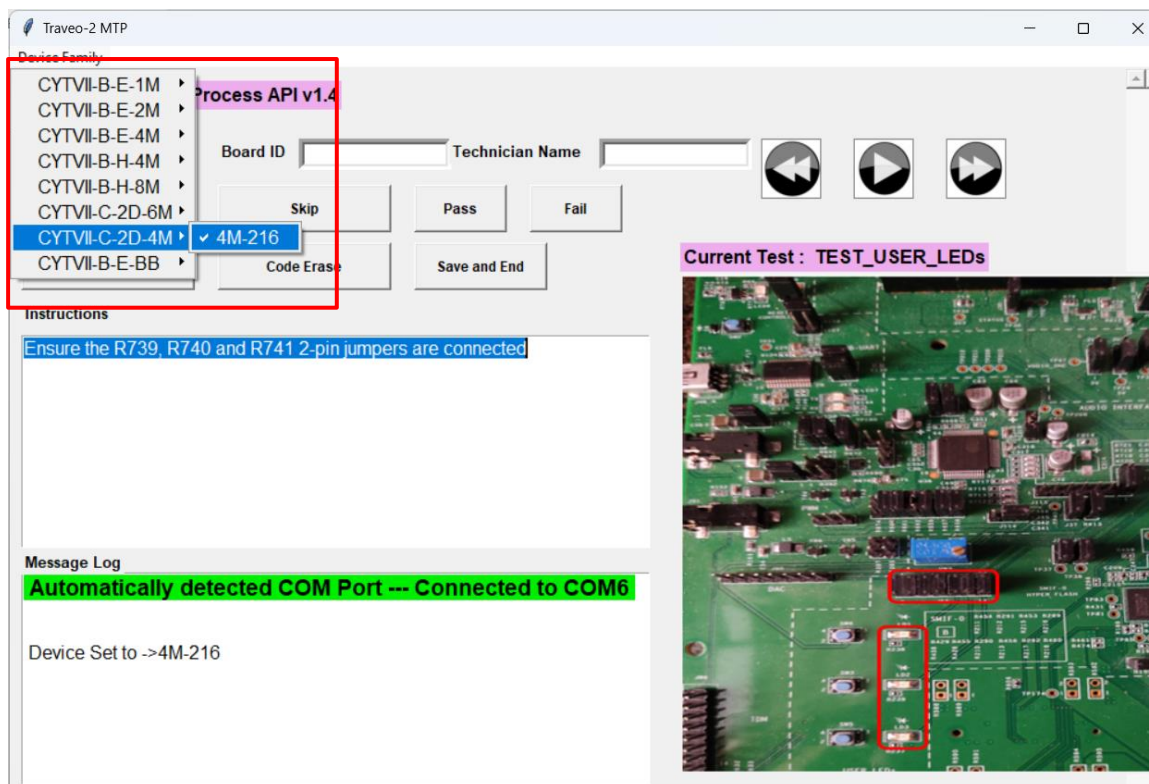

Figure 7: Selecting TVII-C-2D-4M-216-CPU
4. Go to Device Family -> CYTVII-C-2D-4M -> 4M-216, mentioned in Figure 7.